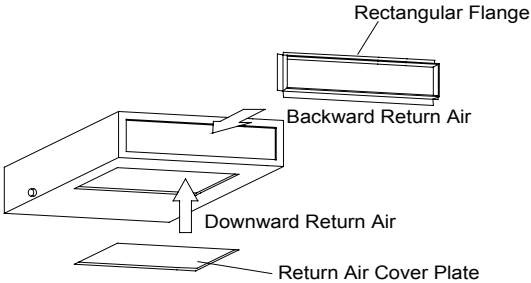

Fig. 11
- (1). The default installation location of the rectangular flange is in the back of the unit (horizontal air flow). A return air cover plate is over the bottom return air opening, as shown in Fig. 11.